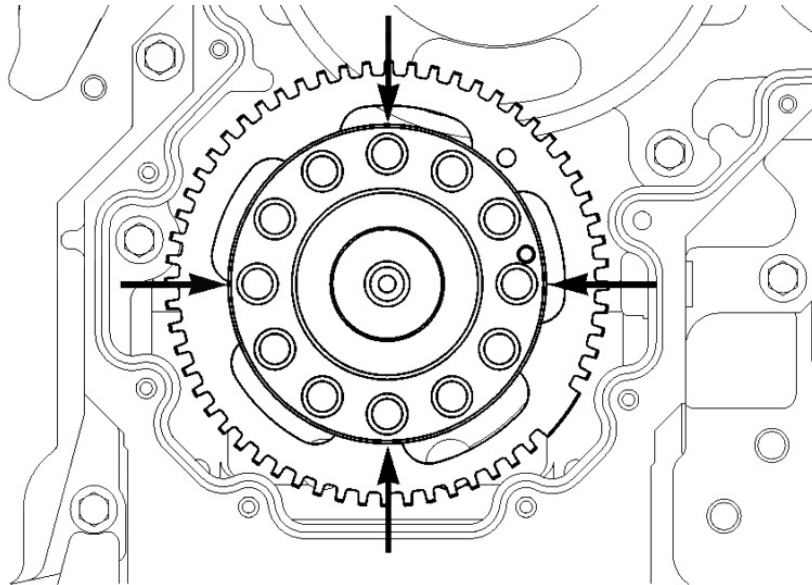

Figure 2. Tone Wheel Feeler Gauge Measure Points
5. To check the installation, attempt to insert a .010" (.250 mm) feeler gauge between the crankshaft adapter and the tone wheel at four locations approximately 90° apart as shown in Figure 2.